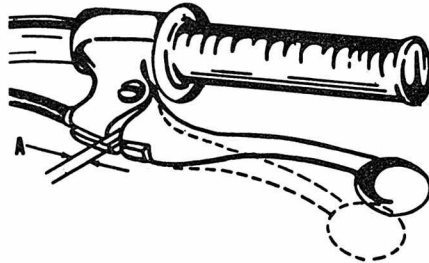

Fig. K5-7—Adjust clutch cable to obtain 1/8 inch free play at pivot (A).
a 90-100 degree angle is formed (X) between the release arm and base plate. Back adjusting screw (D) out until loose then turn it in slowly until a slight resistance is felt. Back screw (D) out 1/4 turn and tighten lock nut (C). Turn cable adjusters to obtain 1/8 inch free play in pivot of control lever (A—Fig. K5-7).